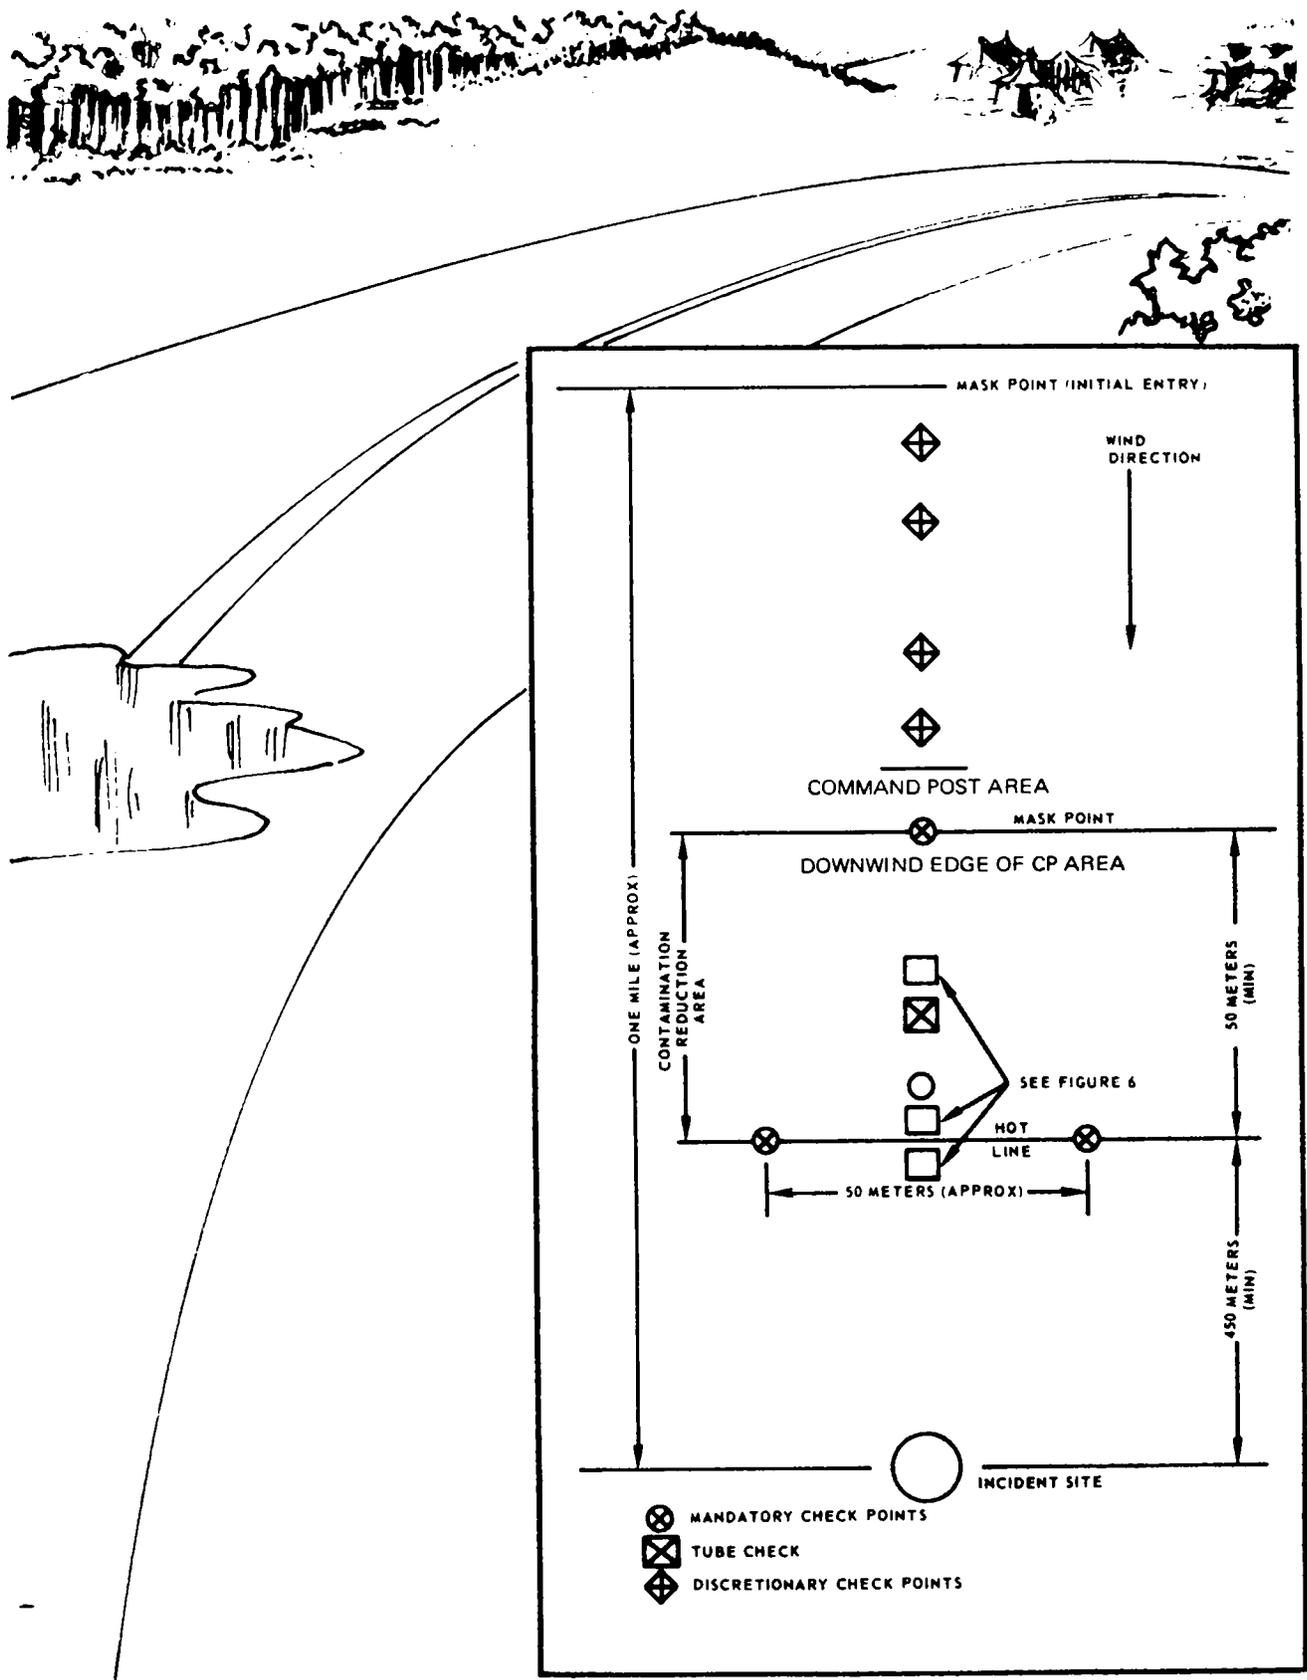

Figure 4. Organization for a Typical Chemical Incident
- The downwind edge will be at least 500 meters from the incident as indicated by figure 4.
Additional checks must be made to insure that the hot line and contamination reduction area are located in a contamination free area. A minimum of three aerosol/vapor tests using the enzyme ticket and one test using the color banded tubes (mandatory checks in figure 4) should be made. These tests should be performed approximately 50 meters apart on the hot line to insure complete coverage of the contamination reduction area. The surface of the ground should be visually checked for obvious liquid agent contamination and should be sampled with the ABC M8 Detector Paper. The vapor tests (blue, yellow, green, and red band tube tests) need only be accomplished once, in the center of this area (see TM 3-6665-254-12 for use of the ABC M18A2 Detector Kit). If all tests are negative the team leader can have the team unmask in accordance with instructions contained in FM 21-40. If the contaminant is known, tests need be made only for that material. Periodic checks of the wind direction will be made at approximately 30-minute intervals to insure that the CP remains upwind of the site as long as a downwind hazard exists.